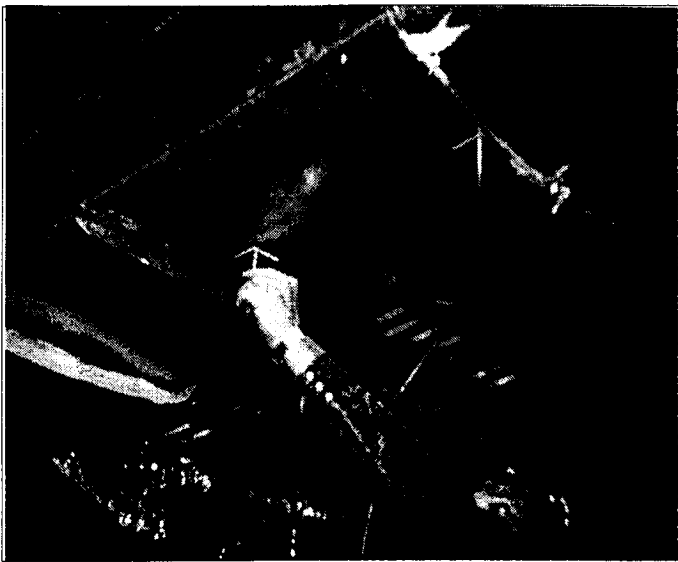

Figure 3
- d. For rectangular and oval ducts 24 inches and larger insulation shall be additionally secured to bottom of ducts with mechanical fasteners. Fasteners shall be spaced on 18 inch centers and not more than 18 inches from duct corners. See figures 3 and 4.